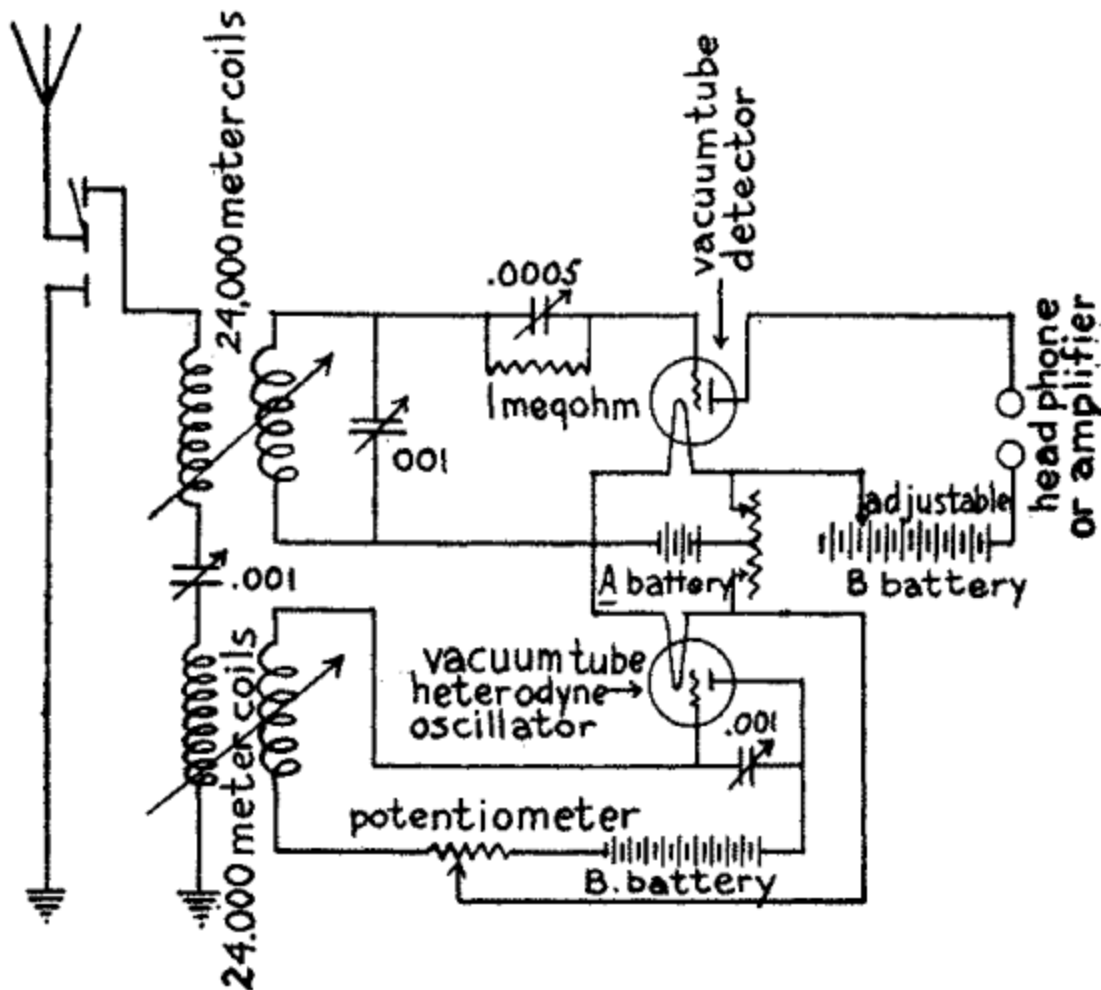

FIG. 61.—Wiring Diagram of Long Wave Separate Heterodyne Receiving Set.
length that you want to receive; (2) three .001 mfd. variable condensers; (3) one .0005 mfd. variable condenser; (4) one 1 megohm grid leak resistance; (5) one vacuum tube detector; (6) one A battery; (7) two rheostats; (8) two B batteries, one of which is supplied with taps; (9) one potentiometer; (10) one vacuum tube amplifier, for setting up the heterodyne oscillations; (11) a pair of headphones and (12) all of the parts for a two-step amplifier as detailed in Chapter IX, that is if you are going to use amplifiers. The connections are shown in Fig. 61.